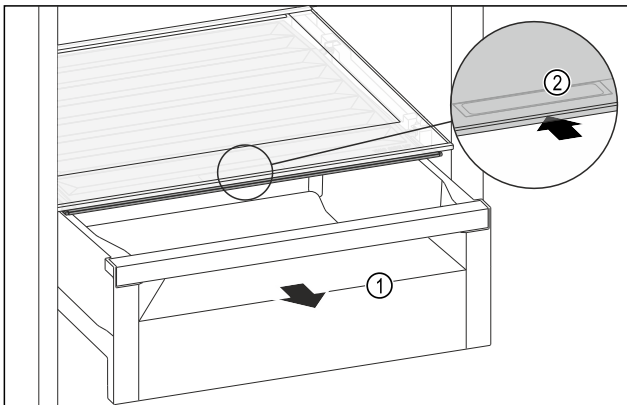

Fig. 160
- ▶ Pull out the drawer Fig. 160 (1).
- ▶ Grasp the recessed grip Fig. 160 (2) on the compartment lid and push the compartment lid backwards at the same time.